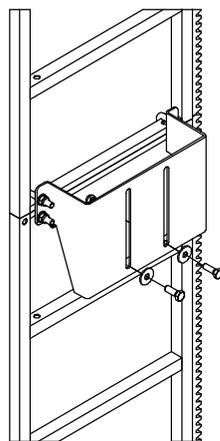

Fig. 11
6. While climbing up, tighten the connecting screw (M12) between the ladder rack anchorages and tower support brackets with a torque of 12 N·m (see Fig.11).